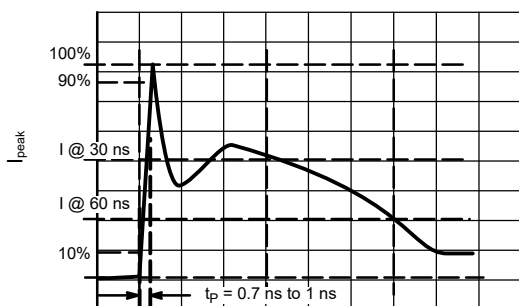

Figure 3: IEC61000-4-2 Waveform
- For test procedure see Figures 3 and 4 and Application Note AND8307/D.